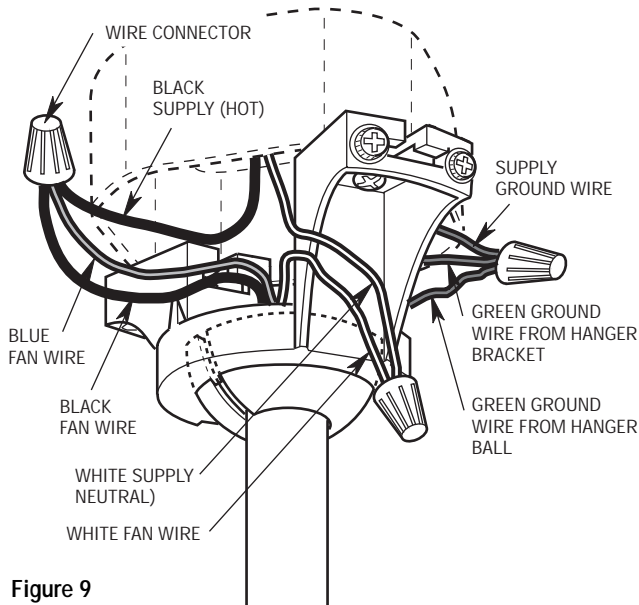

Figure 9
- Connect the green grounding lead from the hanger ball and the green grounding lead from the hanger bracket to the grounding conductor of supply (this may be a bare wire or wire with green colored insulation) (Figure 9). Securely connect wires using wire connectors supplied.
2. Securely connect the fan motor white wire to the supply white (neutral) wire using wire connector supplied (Figure 9). Securely connect the fan motor black wire and blue wire to the supply black (hot) wire using wire connector supplied (Figure 9). After connections have been made, turn leads upward and carefully push leads into the outlet box, with the white and green leads on one side of the outlet box and the black and blue leads on the other side of the outlet box.